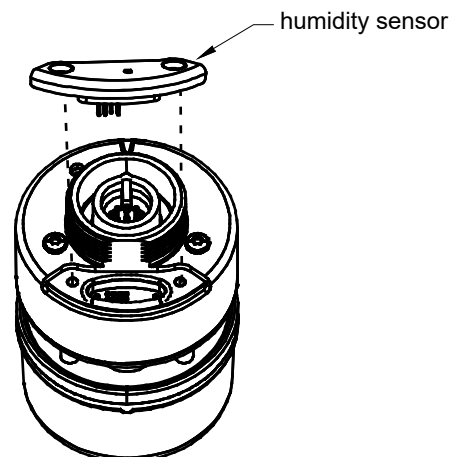

Figure 2: Installing the humidity sensor
3. Remove the sensor/blank* (Figure 2).